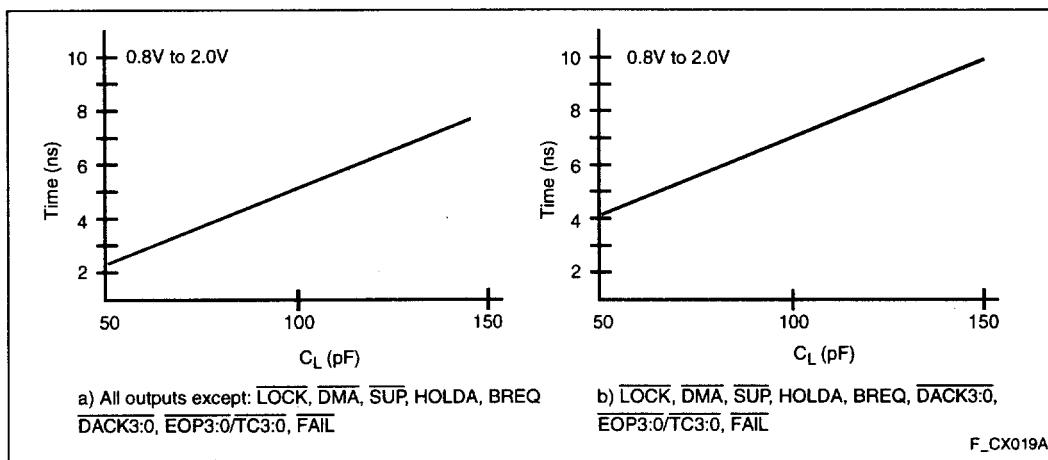

Figure 17. Rise and Fall Time Derating at Highest Operating Temperature and Minimum V_{CC}
3. See Figure 17 for capacitive derating information for rise and fall times.